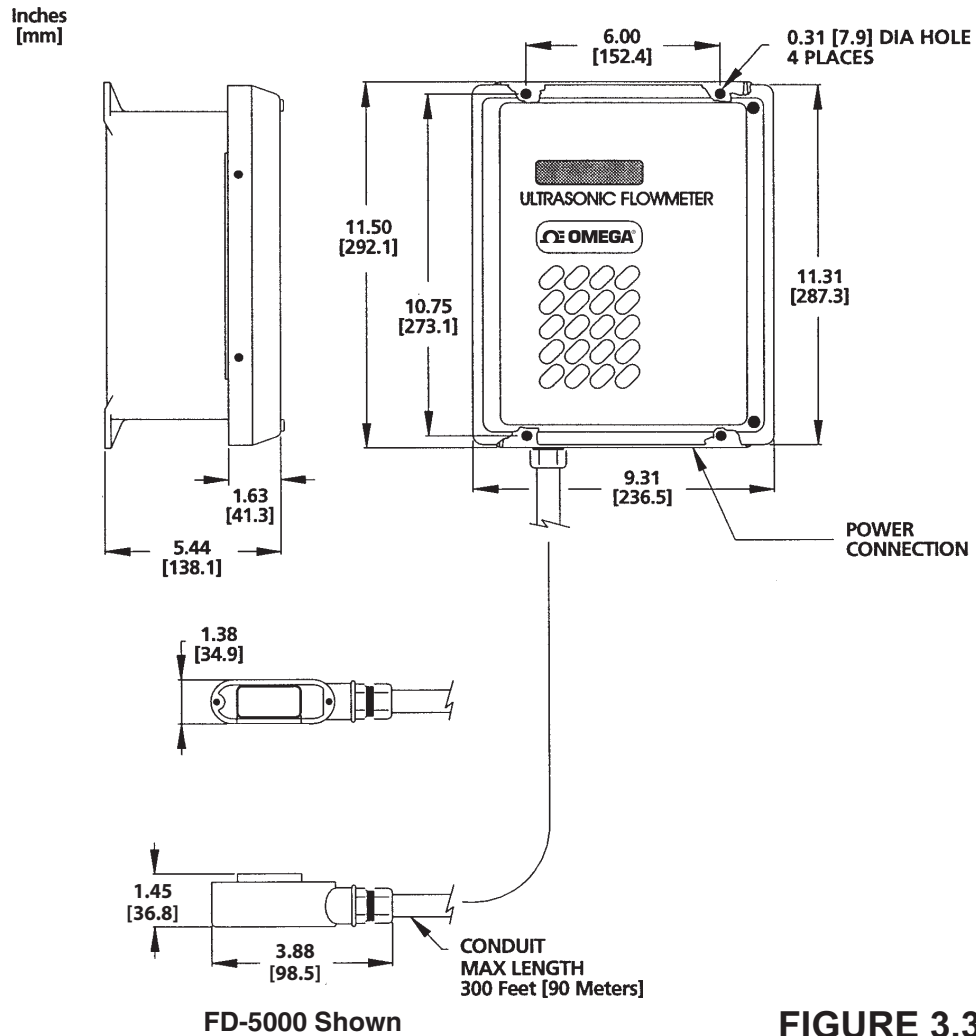

FIGURE 3.3
2. Mounting: Refer to **Figure 3.3** for enclosure and mounting dimension details. Ensure that enough room is available to allow for door swing, maintenance and conduit entrances. Secure the enclosure to a flat surface with four appropriate fasteners.